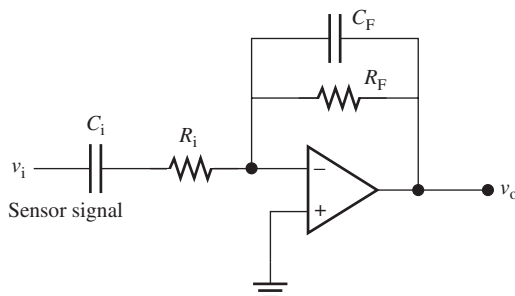

FIGURE P11.26 Band-pass, active filter.
- 11.26** (A) A simple band-pass filter with op amp is shown in the Figure P11.26. Derive the expression for the gain of this active filter.